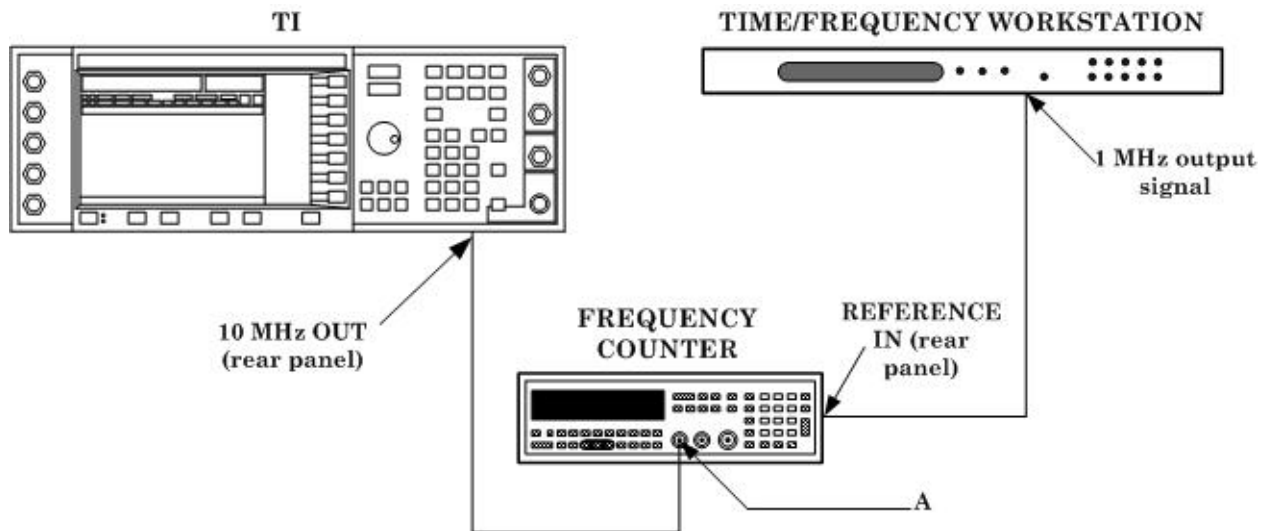

Figure 1. Internal oscillator equipment setup.
- d. Connect equipment as shown in figure 1.